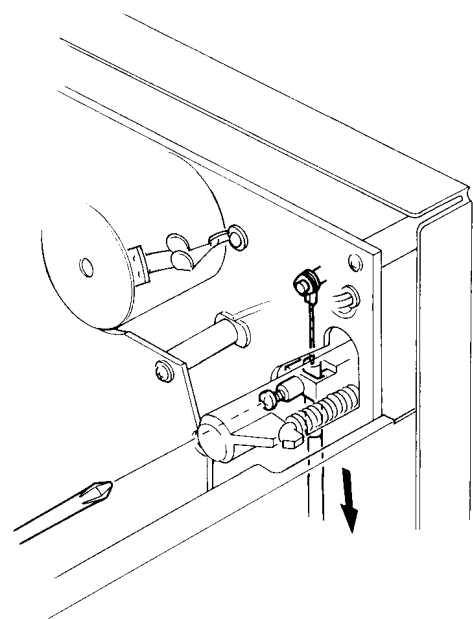

Fig. 5.16.2
(2) With pushing the Eject Arm by hand, loosen the screw and then pull the Eject Wire in the direction of the arrow until it stops as shown in Fig. 5.16.2.
(3) Tighten the screw, then apply a quantity of lock tight paint.